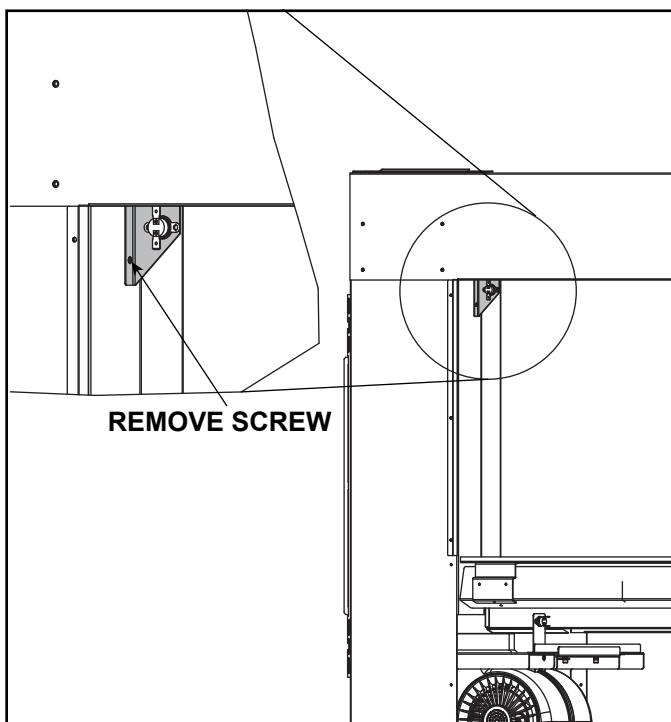

Figure 11.12 High Temperature Limit Switch Installed Correctly
1. Remove the firebox glass high temperature limit switch assembly by removing the machine screw holding the bracket in place and set the assembly aside. See Figure 11.12.
- Reinstall high temperature limit switch assembly and attach wire connections. See Figure 11.12.
- Ensure that high temperature limit switch is installed correctly with wires connected. See Section 11.I for installation instructions. See Figure 11.12. Verify that wires are not pinched by the transition media tray.